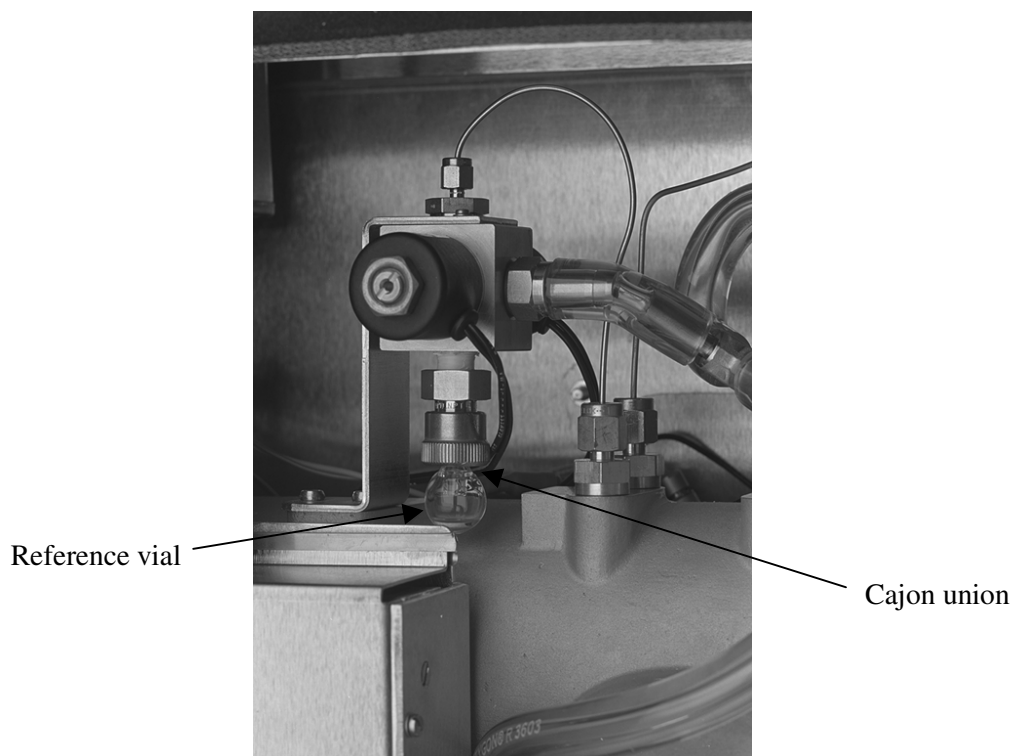

Figure 4-4. The TRACE MS's internal view
6. Unscrew the knurled nut (Cajon union) attached to the tube of the reference vial (see Figure 4-4).